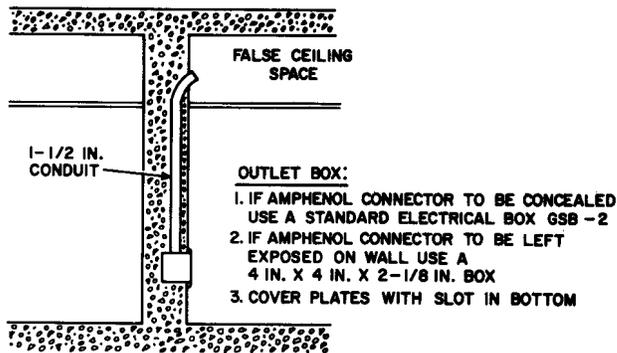

Fig. 11—Conduit in Wall
- (a) A 1-1/2 inch conduit in wall or partition to outlet box (Fig. 11)